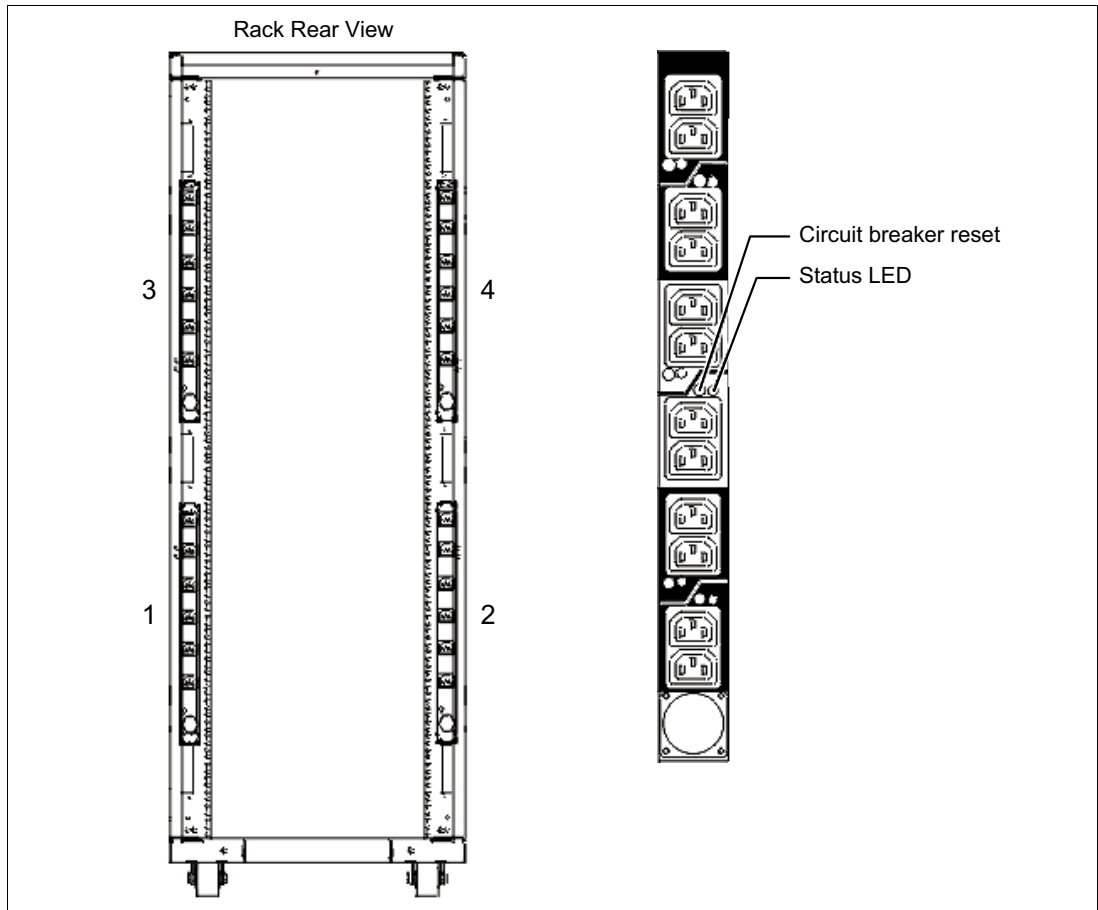

Figure 1-15 Power distribution unit placement and view
- ▶ Up to four PDUs can be mounted in the PDU bays (see Figure 1-15 on page 30), but others can fit inside the rack. For more information, see 1.6.7, “The AC power distribution unit and rack content” on page 29.
Four PDUs can be mounted vertically in the back of the S42, T00, and T42 racks. Figure 1-15 shows the placement of the four vertically mounted PDUs. In the rear of the rack, two more PDUs can be installed horizontally in the T00 rack and three in the S42 and T42 rack. The four vertical mounting locations are filled first in the T00, S42, and T42 racks.